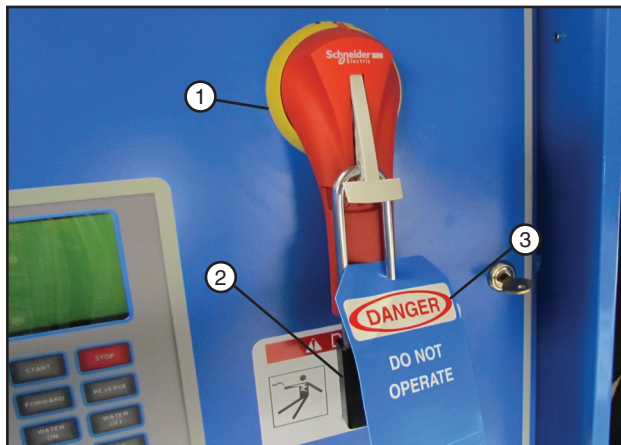

Figure 88-2 1. Main Disconnect
2. SHUT OFF and lock the control panel main power disconnect. See figure 88-2.
FILL OUT the blue (OSHA safety color code) tag and attach to the disconnect after locking. See figure 88-2.